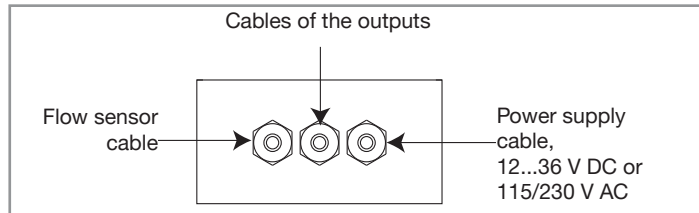

Fig. 41: Using the cable glands
- Insert each cable through a nut then through a cable gland, using the cable glands as shown in Fig. 41.